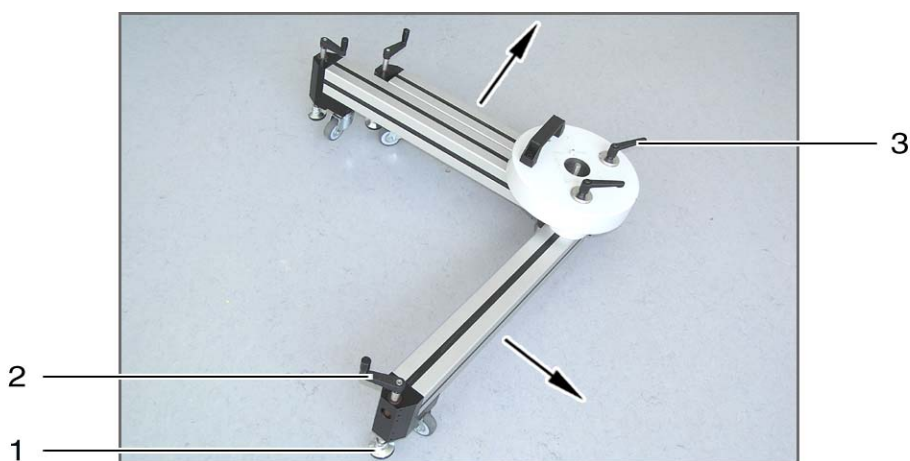

Fig. 23: Tripod foot, partially opened up
2. Undo retainer on the tripod foot , open up tripod foot and secure with cranks (see Fig. 23).